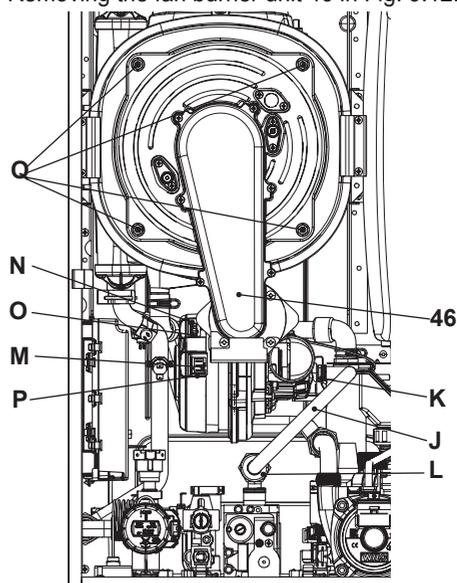

Fig. 9.12
Removing the fan burner unit 46 in Fig. 9.12.
- Insert a flat screwdriver in the connector recess P and lever towards the bottom, disconnect the connector at the same time M by pulling towards the front M (Fig. 9.12).
- Disconnect the fan connector N by pressing the plastic hook O positioned at the bottom part of the connector (Fig. 9.12).
- Unscrew screws Q and remove the fan burner unit 46 (Fig. 9.12)
- Unscrew the Q screw nuts and remove the burner group fan 46 (Fig. 9.12)